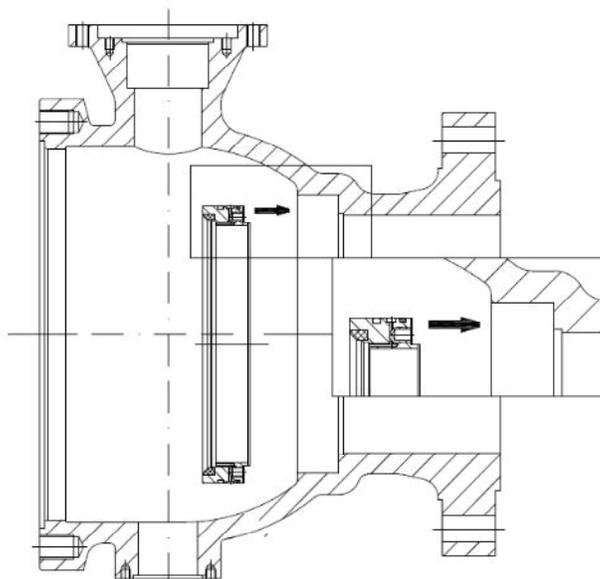

Figure 7
- 7.4 Valve Seat Subassembly: Insert the valve seat seal ring into the valve seat bracing ring. Apply a small amount of non-corrosive non-liquid grease on the valve seat spring and then insert it into the bracing ring, preventing the spring from dropping off during installation. Mount the seat O-ring followed by the seat insert, as shown in Fig.7. Place the valve seat into the valve body